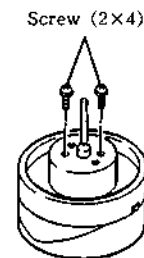

Fig. 1-11.
- ③ With the shaft still inserted in the positioning hole, use your hand to push down the rotating drum lightly. If the drum does not go down completely, refer to Fig. 1-11. and gradually tighten the two long screws (2×5) alternately to fasten the rotating drum.
- ④ Take out the shaft. If the shaft cannot be readily taken out, redo the procedure from step ②.